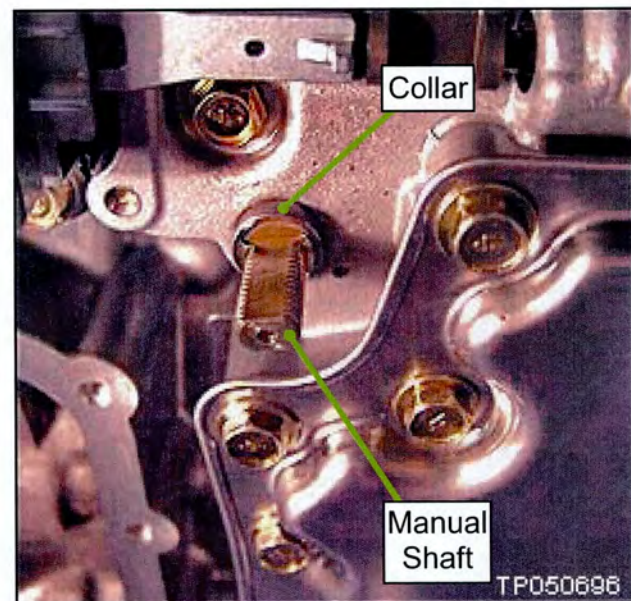

Figure 3
10. Remove the collar from the manual shaft (see Figure 3).
20. Reinstall the collar on the manual shaft (see Step 10, Figure 3, on Page 5).